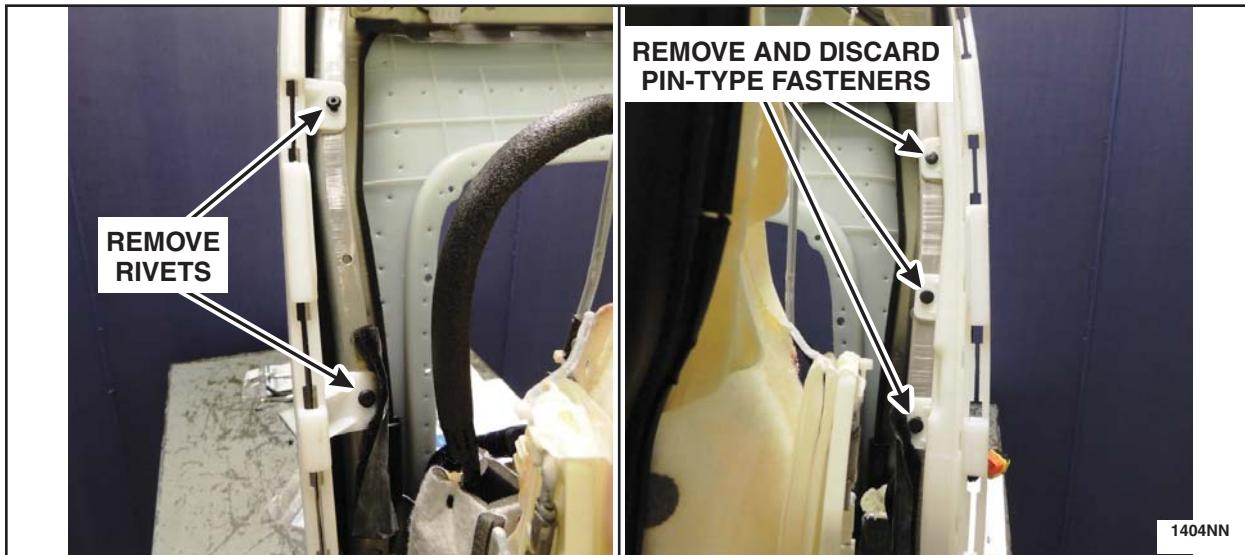

FIGURE 5b
- b. Cut the plastic pin-type and/or rivet fasteners from the front of the hard back panel. Discard the pin-type/rivet fasteners. See Figure 5b.